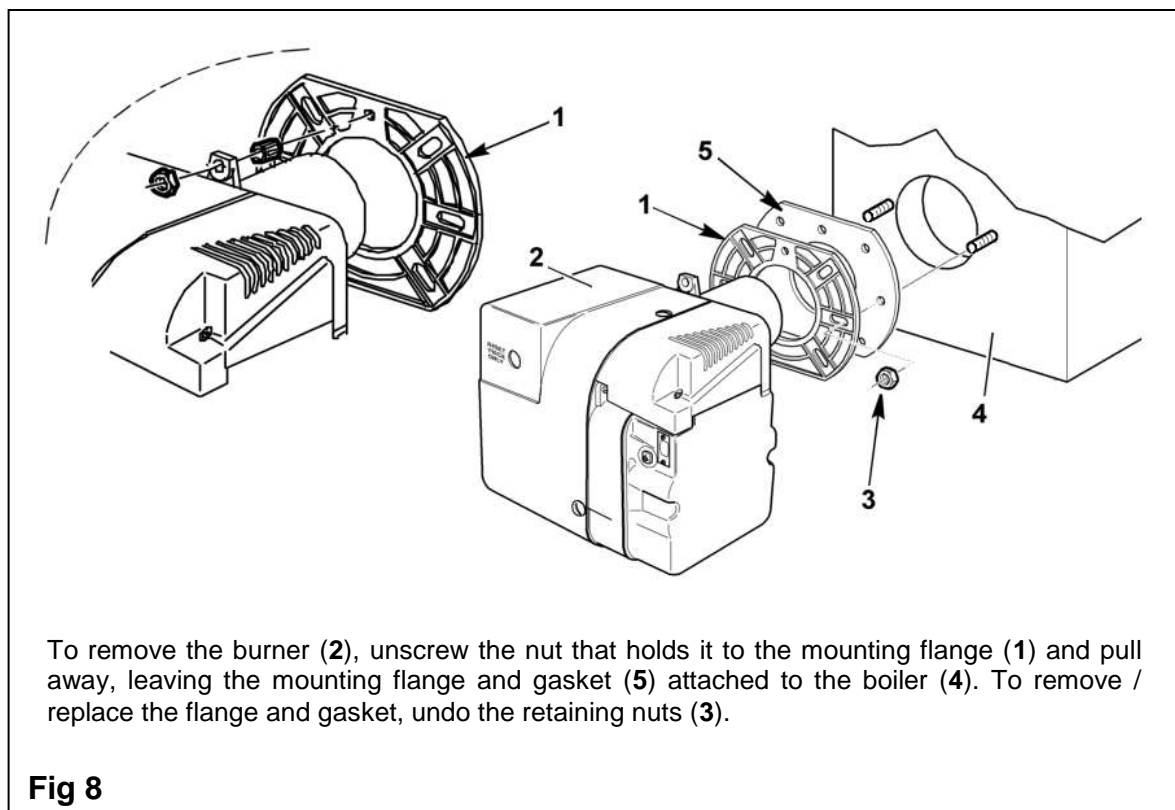

**Fig 6**
5. Taking care not to damage the electrodes, remove the nozzle with an appropriate socket or box spanner (**fig 6**).